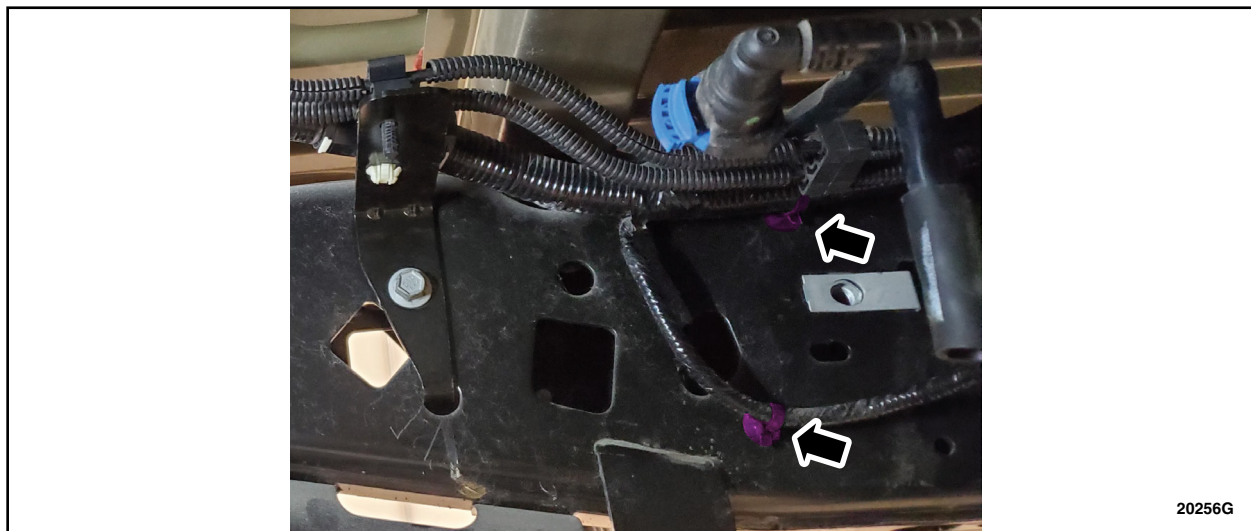

FIGURE 8
12. Remove the two push-pin retainers that are connecting the harness to the frame on the right side of the bracket in Step 11. See Figure 8.